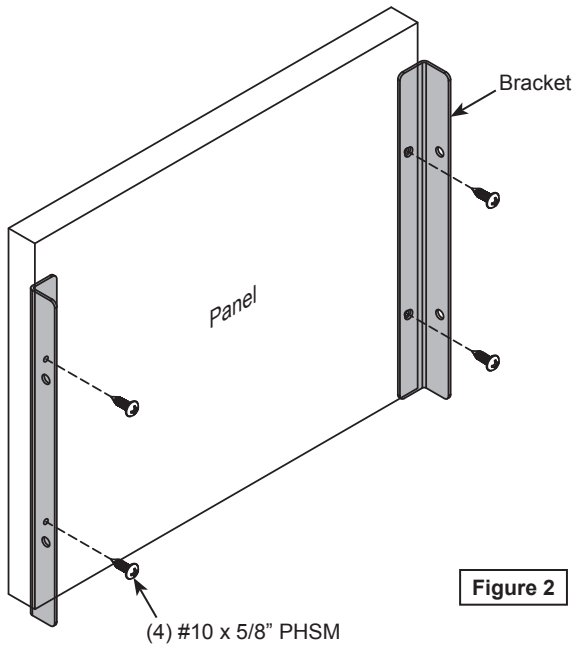

Figure 2
1. Attach the (2) brackets to the panel (black laminate toward brackets) with (4) #10 x 5/8" PHSM screws as shown. **Figure 2.**